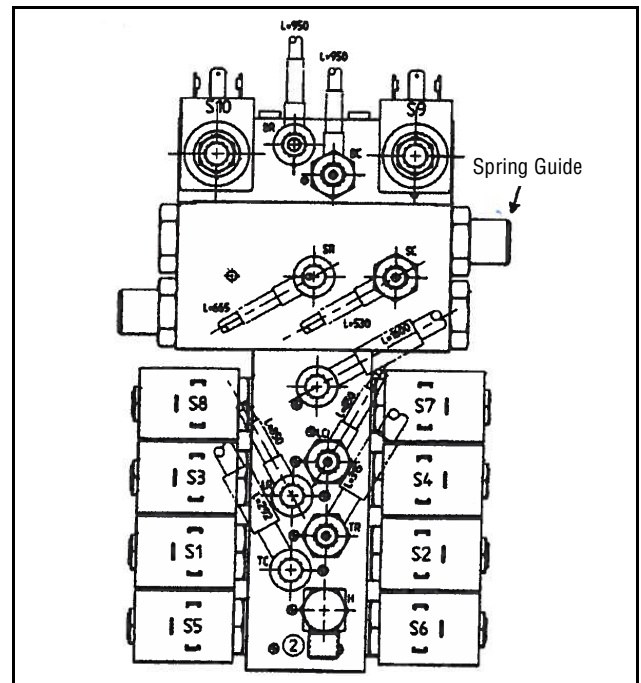

Figure 7-5. S10 Return Spring Replacement
NOTE: Refer to Figure 23 located in Illustrated Parts Breakdown (refer to Tab) and Figure 7-5.
- Unscrew spring guide (see Figure 7-5 and Item 24) on side of Control Block #2 (second block down) toward back section.